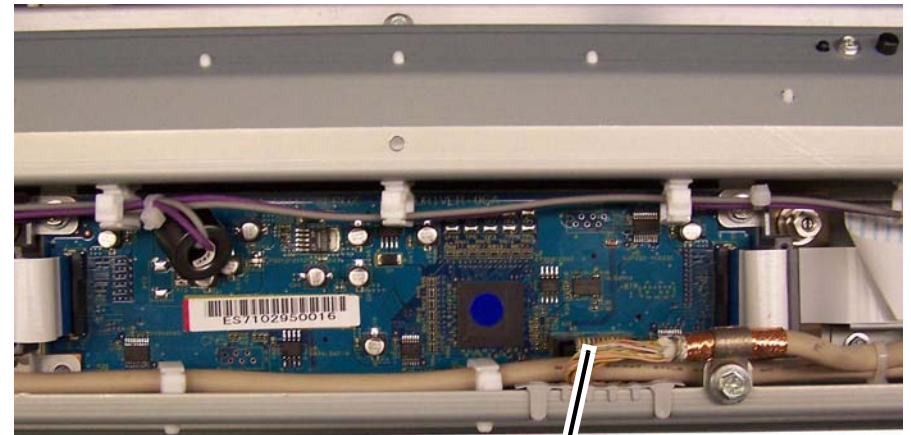

Figure 4 Disconnect the LPH Interface Cables from the LPH Driver PWBs
- c. Disconnect the LPH Interface Cables from the LPH Driver PWBs (Figure 4).